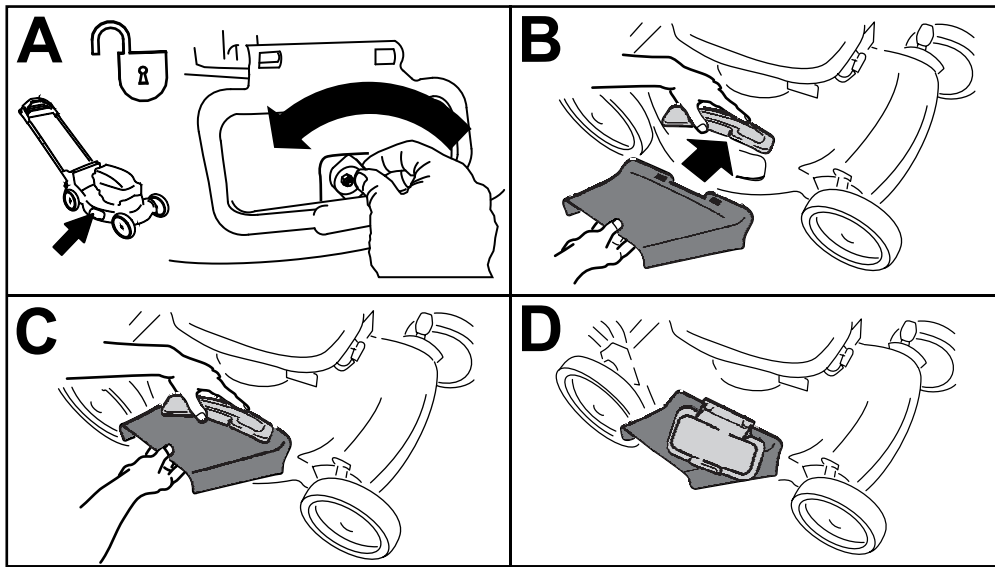

Figure 20
1. Unlock the side-discharge deflector (A of Figure 20).
2. Lift open the side-discharge deflector (B of Figure 20).
3. Install the side-discharge chute and close the deflector onto the chute (B, C, and D of Figure 20).